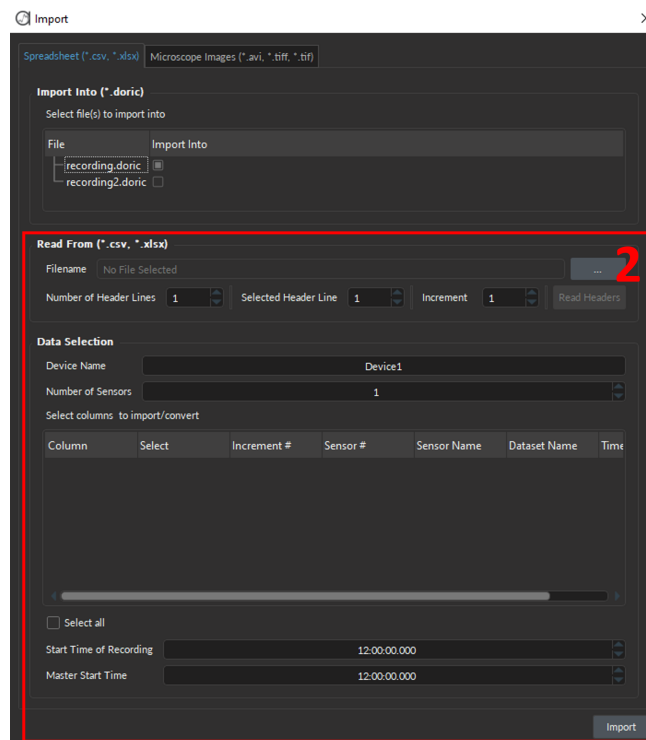

Figure 13.18: Import, Spreadsheet-specific parameters
2. The **Spreadsheet** specific parameters in Fig. 13.18 are identical to the parameters details in Section 13.2.2.1.